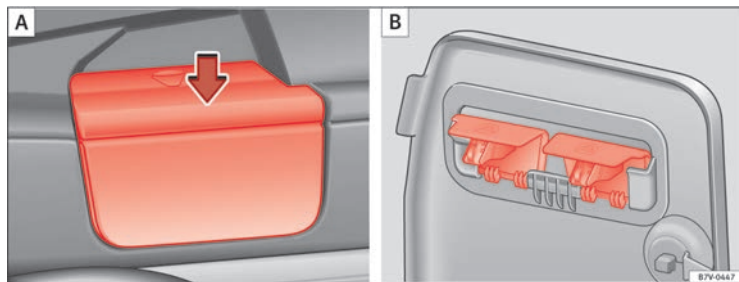

Fig. 93 Remove the shelf supports A then put them away safely B
- Remove the shelf from the support in the side lining ⇒ Fig. 93 **A**. To do this, press the shelf upwards (arrow) and remove it.
- Open the compartment in the left-hand side rear lining ⇒ page 142 and hook the shelf to the rear of the luggage compartment cover ⇒ Fig. 93 **B**.